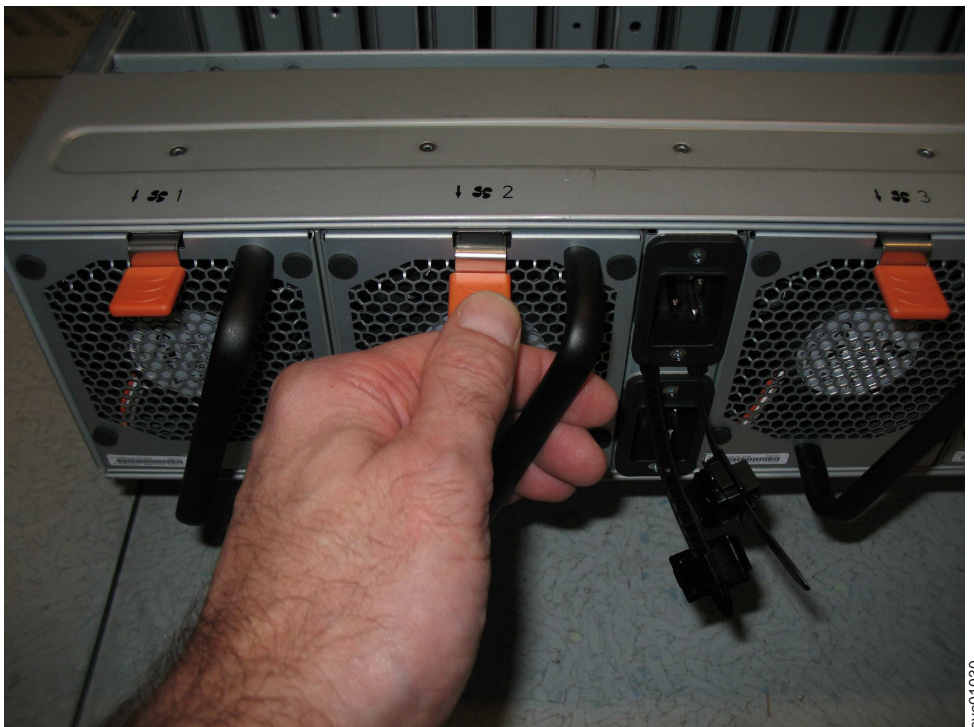

Figure 99. Fan module release tab
2. Press the release tab on the fan module, as Figure 99 shows.